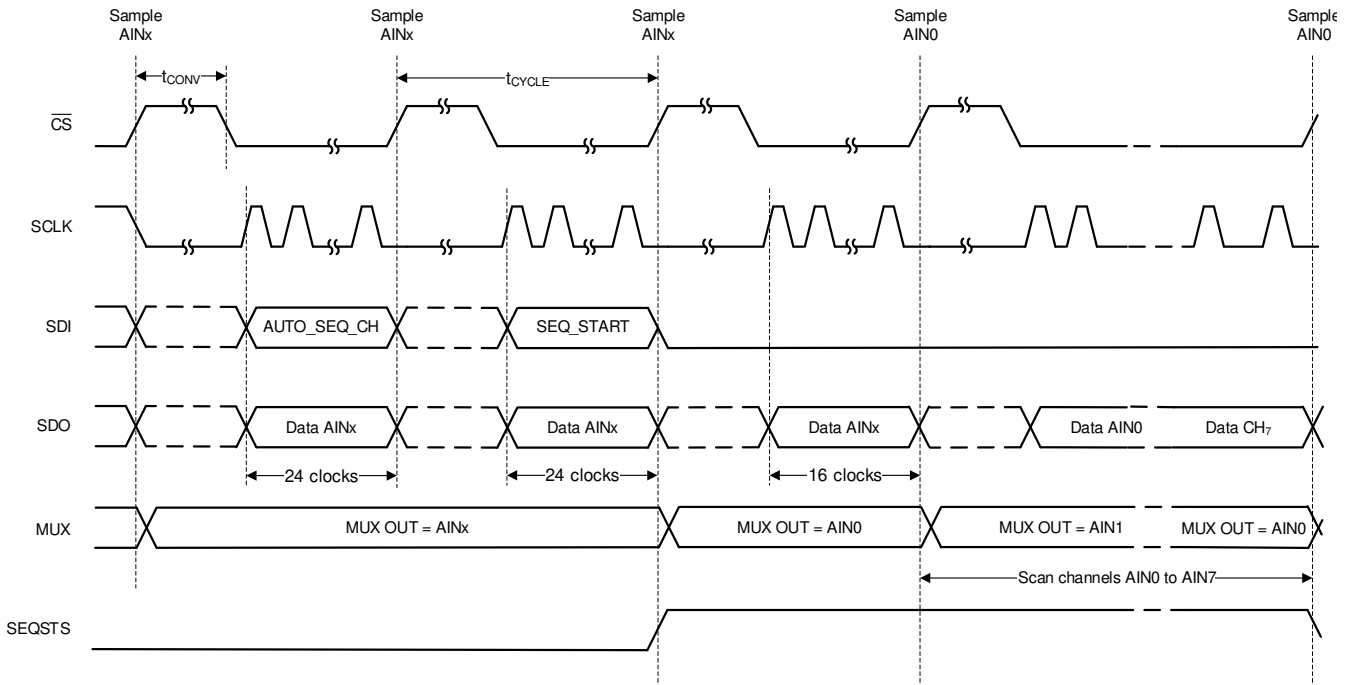
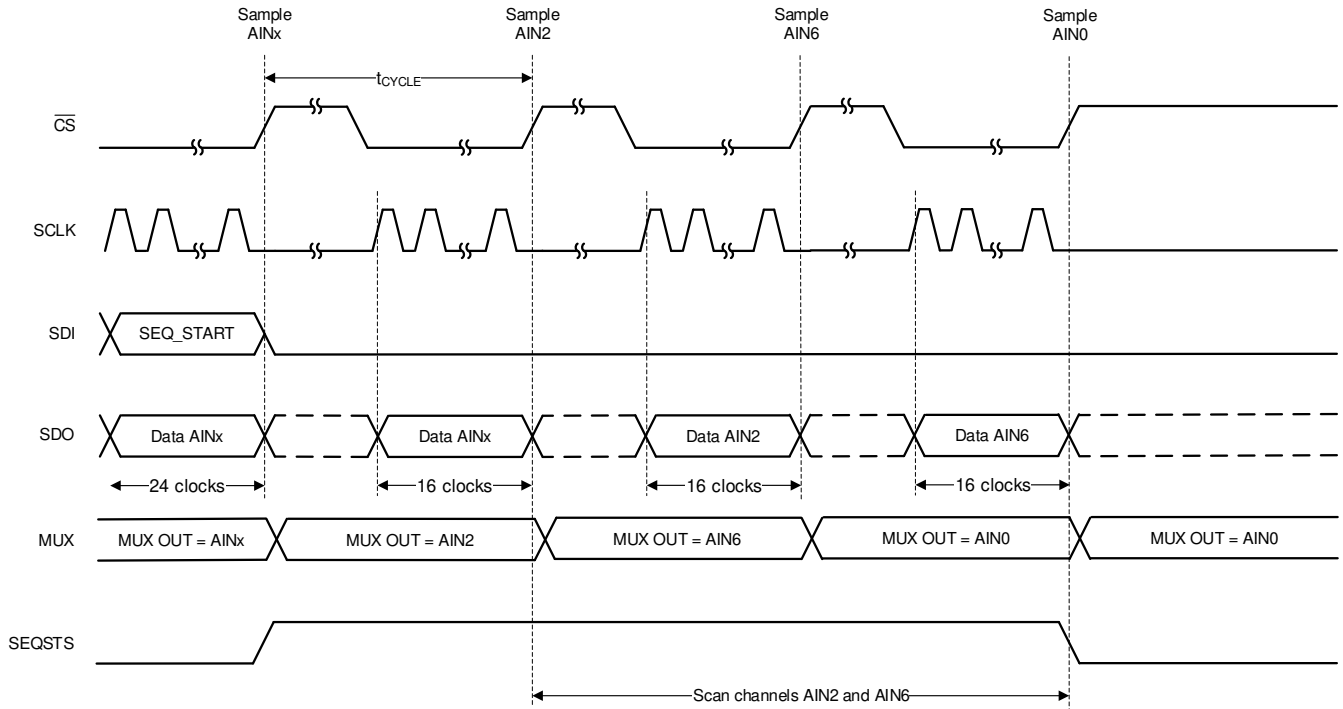

Figure 6-14. Starting a Sequence in Auto Sequence Mode
Figure 6-15. Example: Scanning Channels 2 and 6 in Auto Sequence Mode
In auto sequence mode, the internal channel sequencer selectively scans channels from AIN0 through AIN7 in ascending order. To select auto sequence mode, configure SEQ_MODE to 10b in the DEVICE_CFG register using a 3-byte register access. Enable one or more channels among AIN[7:0] by configuring the AUTO_SEQ_CFG1 register. By default all analog input channels are enabled. After enabling the desired channels, start the sequence by setting SEQ_START to 1b. The ADC auto-increments through the enabled channels after every \overline{CS} rising edge. Configure SEQSTS_CFG bit to 1b in SDO_CNTL4 register to indicate sequence status on SDO-1/SEQSTS pin. When SEQ_START is set to 1b, the SDO-1/SEQSTS pin is at logic 1 as shown in Figure 6-14 until the last channel conversion is complete. After the last enabled channel conversion is complete, channel AIN0 is selected and SDO-1/SEQSTS is in a high-impedance state.
As an example, Figure 6-15 depicts a timing diagram for when the device is scanning AIN2 and AIN6 in auto sequence mode. When AIN6 is converted, SDO-1/SEQSTS is Hi-Z and AIN0 is selected as the active channel. At the end of sequence, if more conversion frames are launched the device returns valid data corresponding to AIN0.
- Configure the AUTO_SEQ_CFG1 register. In Figure 6-15, AUTO_SEQ_CFG1 = 0x44.
After configuring the channel scanning order, start index, and stop index, initiate the scanning by setting the SEQ_START bit to 1b. The ADC scans through the enabled channels after every \overline{CS} rising edge as defined by the channel scanning order. When SEQ_START is set to 1b, the SDO-1/SEQSTS pin is pulled high until the last channel conversion frame is complete, as described in Figure 6-14. As illustrated in Figure 6-15, channel AIN0 is selected and SEQSTS/SDO-1 goes to Hi-Z after the last enabled channel conversion is complete.
As an example, Figure 6-15 provides a timing diagram for when the channel configuration is set as in Table 6-5. When AIN6 is converted, SEQSTS/SDO-1 goes to Hi-Z and AIN0 is selected as the active channel. If more conversion frames are launched at the end of the sequence, the device returns valid data corresponding to AIN0.
- Configure the CCS_START_INDEX and the CCS_END_INDEX registers. In Figure 6-15, CCS_START_INDEX = 0 and CCS_STOP_INDEX = 1.
- Configure the CCS_SEQ_LOOP register to 1 to indefinitely loop the sequence. In Figure 6-15, the CCS_SEQ_LOOP register = 0b.